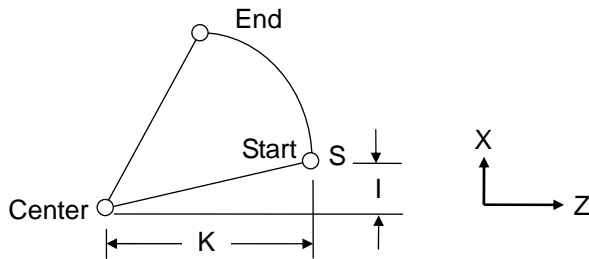

Fig. 3-5 Arc cutting
An arc comprises three elements, a start point, and end point and a center (See Fig. 3-5). The start point (S) is the tool coordinates when the G02 and G03 execute.